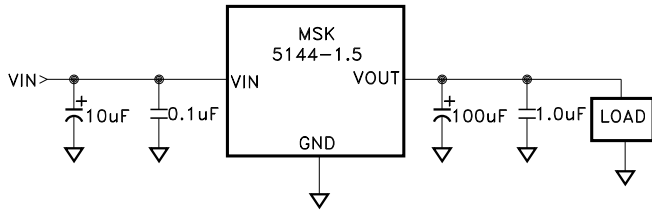

FIGURE 1
- ① The output is decoupled to ground using a 100μF low ESR tantalum capacitor in parallel with a 1μF ceramic capacitor. See figure 1 for typical circuit.
- ② Guaranteed by design but not tested. Typical parameters are representative of actual device performance but are for reference only.
- ③ Minimum input voltage is as specified or VOUT + VDROPOUT, whichever is greater.
- ④ Industrial grade devices shall be tested to subgroups 1 unless otherwise requested.
- ⑤ Military grade devices ("H" suffix) shall be 100% tested to subgroups 1,2 and 3.
- ⑥ Subgroup 1 TC = +25°C